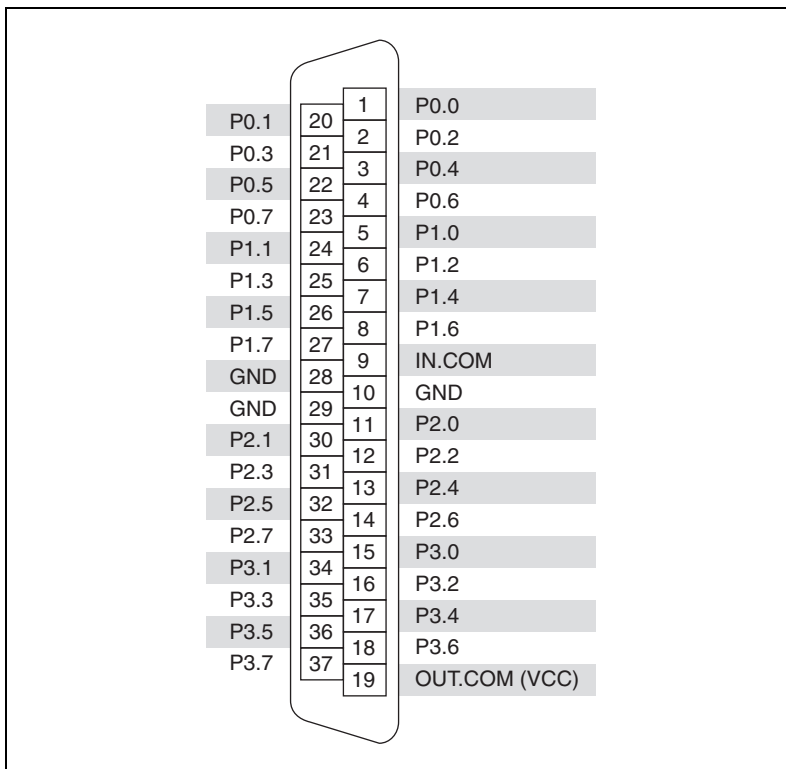

Figure 3-15. NI 6519 Pin Assignments
Figure 3-15 shows the pin assignments for the SH37F-37M cable when connecting to the NI 6519 device. The naming convention for each pin is PX.Y, where X is the port (P) number, and Y is the line number or name.